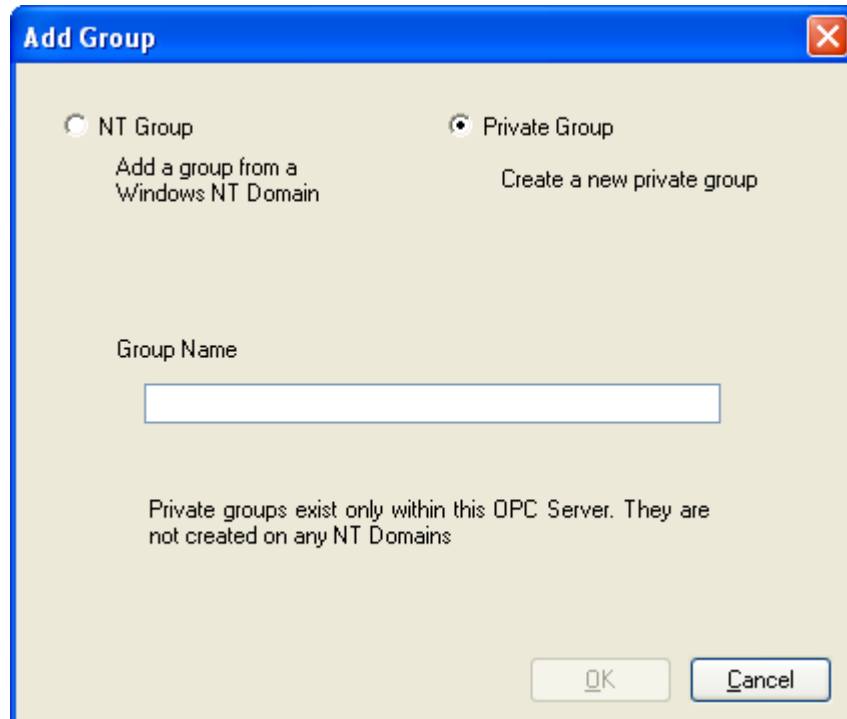

Figure 53 - Add Group Window (Private)
3. Select the **Private Group** option button (Figure 53).